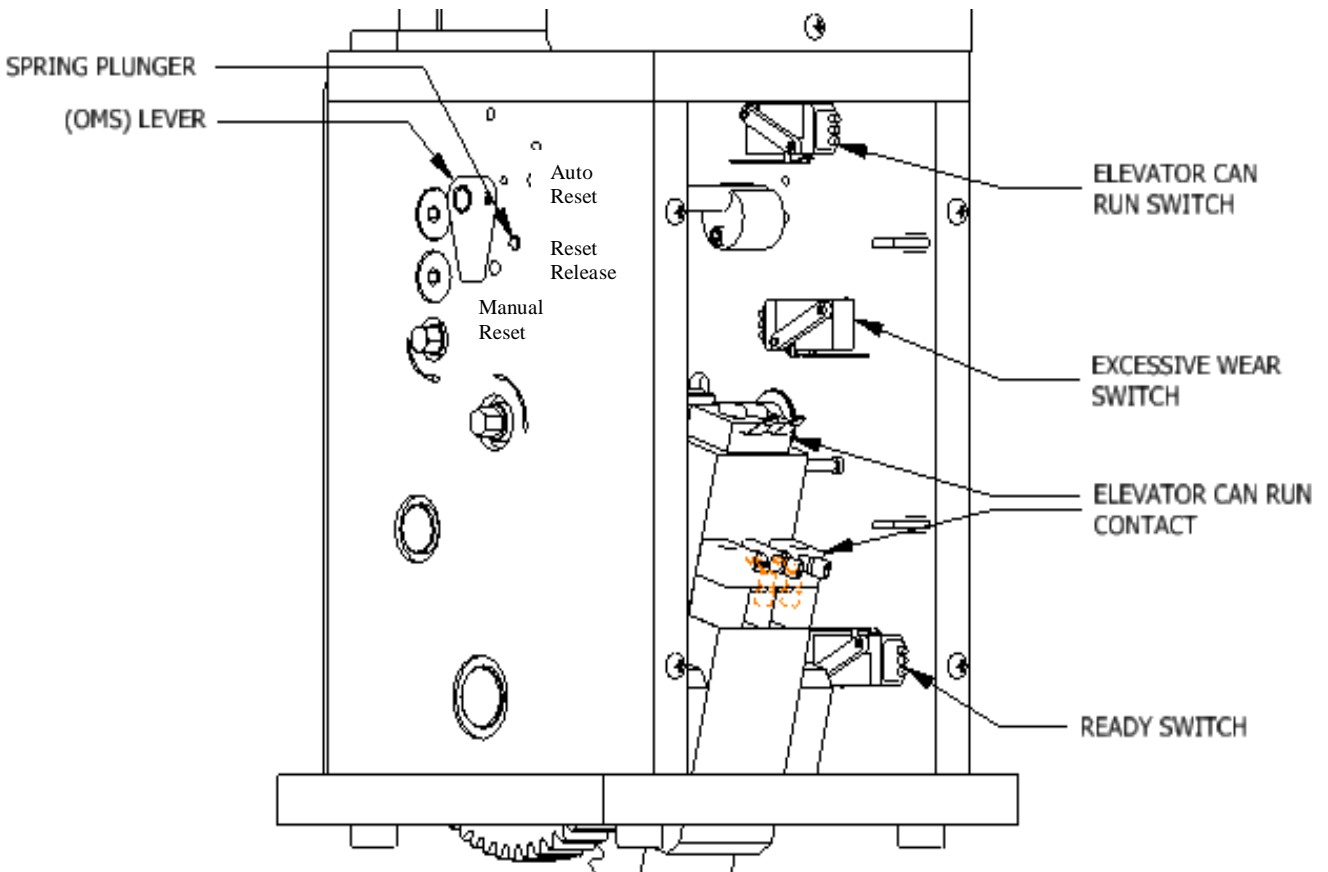

Figure 6 - Gearbox of 622G Rope Gripper™
- Make sure controller safety circuit is active and clear for running. Turn OMS lever to *Auto Reset* (see Figure 6). The “ROPE GRIPPER™” should be in or go to the ready, open (LOADED) position (NOT clamping the ropes).
- Turn OMS lever to *Reset Release*. This should trip the “ROPE GRIPPER™”, clamping the ropes. Be sure that while clamping the ropes, the Ready Switch (see Figure 6) contacts on the “ROPE GRIPPER™” stop or prevent power from being applied to the motor and machine brake.
- The linings will wear, especially after multiple high-speed stops. When clamping, the rotating shaft will move towards the upper end of the cam as the linings wear. Near the end of the cam, the excessive wear switch (see Figure 6 on page 5) will open and the “ROPE GRIPPER™” will not automatically reopen (reload).